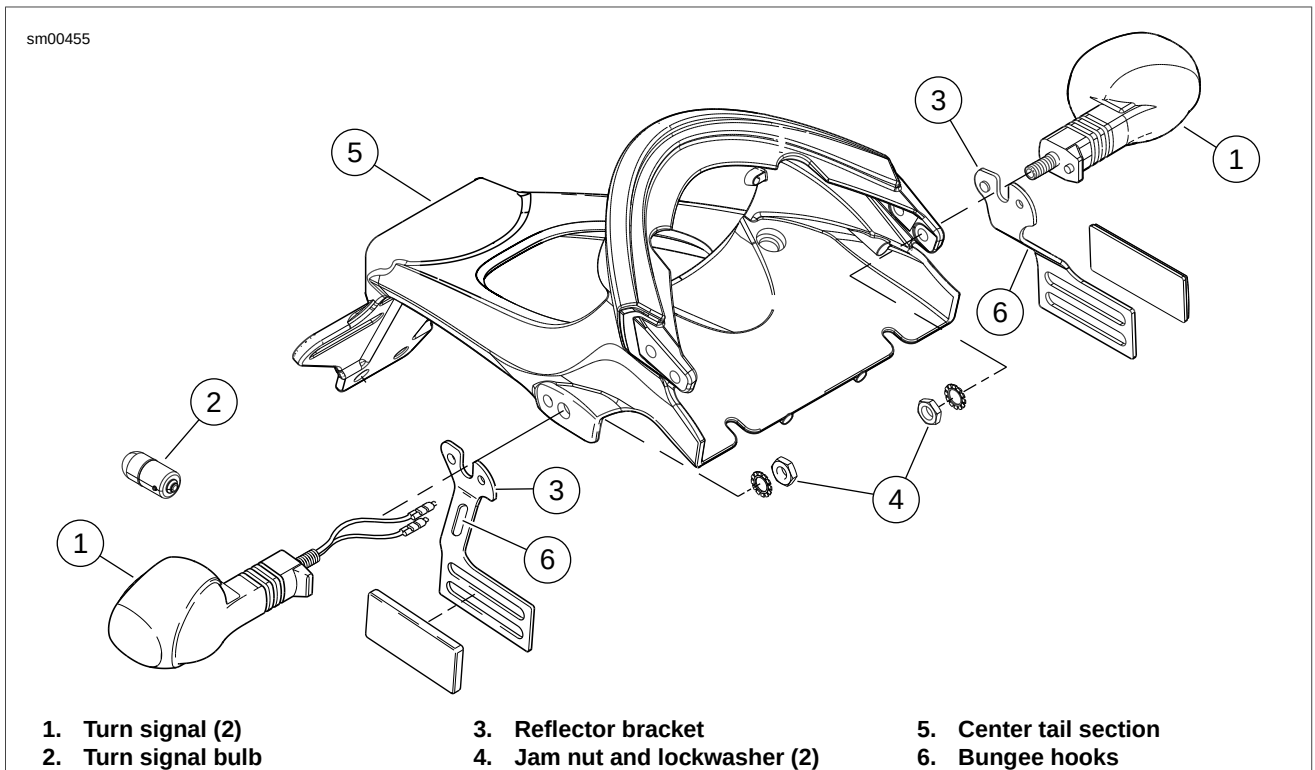

Figure 7-52. Rear Turn Signals: Lightning
3. See Figure 7-52. Remove jam nut and lockwasher (4).
- See Figure 7-52. Attach turn signal using lockwasher and jam nut (4). Tighten to 25-28 **in-lbs** (2.8-3.2 Nm).